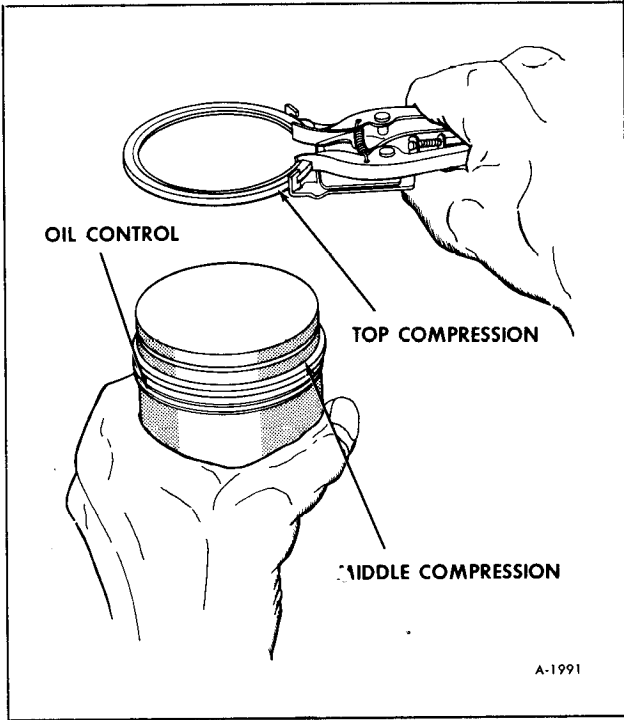
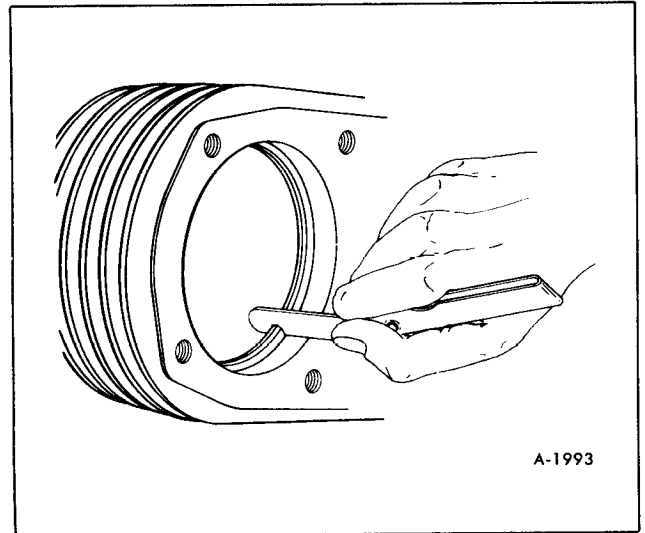

Figure 15—Installing Piston Rings
Figure 17—Measuring Piston Ring End Gap
**INSTALLATION:** (figure 15 and 16) Before installing rings on piston, insert rings in cylinder bore to check for proper end gap. If cylinder bore is original size, ring end gap will be .010-.020" – if the bore is worn but within tolerances, end gap up to .030" is acceptable (figure 17). Replace piston if thrust face diameter is worn beyond 3.7425 – measure this just